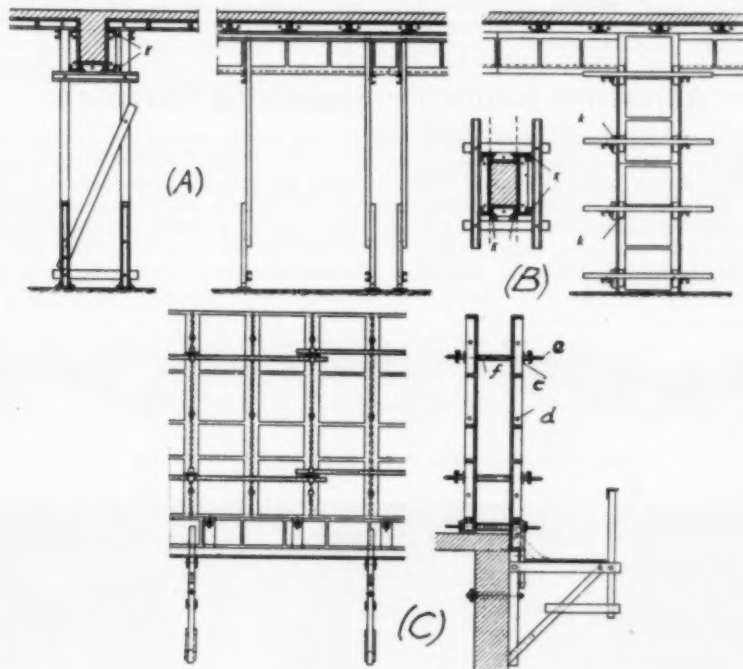

Fig. 1.
und Stahlbetonbau", is illustrated in Fig. 1, in which the shuttering is applied to (A) floors, (B) columns, and (C) walls.